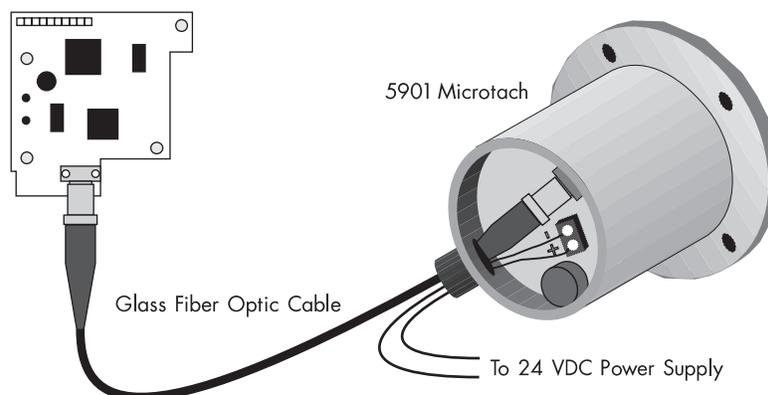

Figure A.9 - Connecting the 5901 Microtach to the 5901 Microtach Receiver Card
4. The 5901 Microtach encoder is a 1000 PPR incremental encoder with digitally encoded fiber optic output. Power the encoder from the drive's +24 VDC supply (terminals C1 and C9) or from an external supply if the drive's +24 VDC power rail is at capacity . Figure A.9 shows the Microtach receiver connected to the 5901 Microtach. The power terminals in the encoder are marked '+' and '-'.